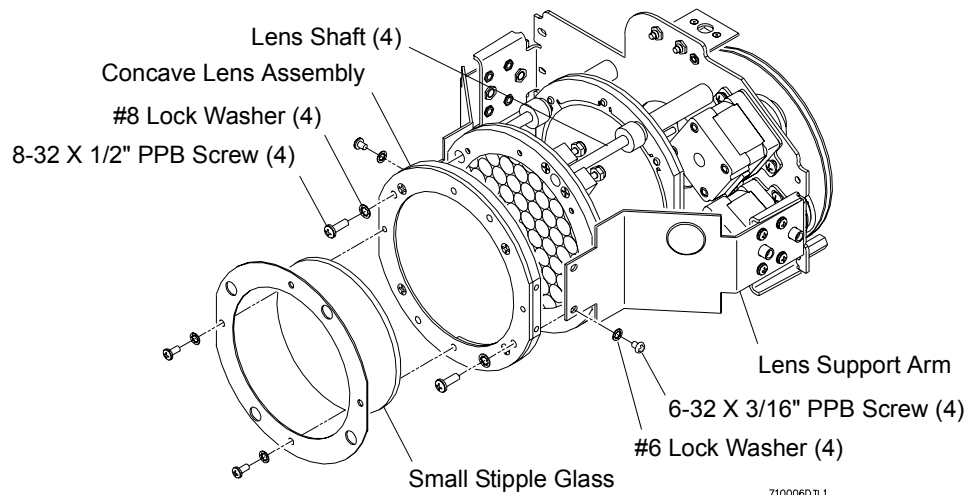

Figure 2-14: Concave Lens Assembly Replacement
- Step 3. Remove four 6-32 X 3/16" PPB screws and four #6 lock washers securing concave lens assembly to lens support arm (**Figure 2-14**).